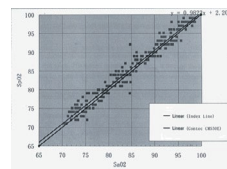
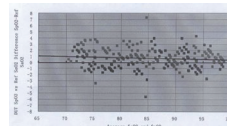

Figure 2 SpO2 regression plot
Figure 3 Bland-Altman plot
- Measurement Accuracy:** ±2% in stage of 70% ~ 100% SpO2, and meaningless when stage being smaller than 70%; ±2 bpm during the pulse rate range of 30 ~ 99 bpm and ±2% during the pulse rate range of 100 ~ 250 bpm. Clinical Trial :SpO2 regression plot & Bland-Altman plot. Refer to Figure 2 & Figure 3.